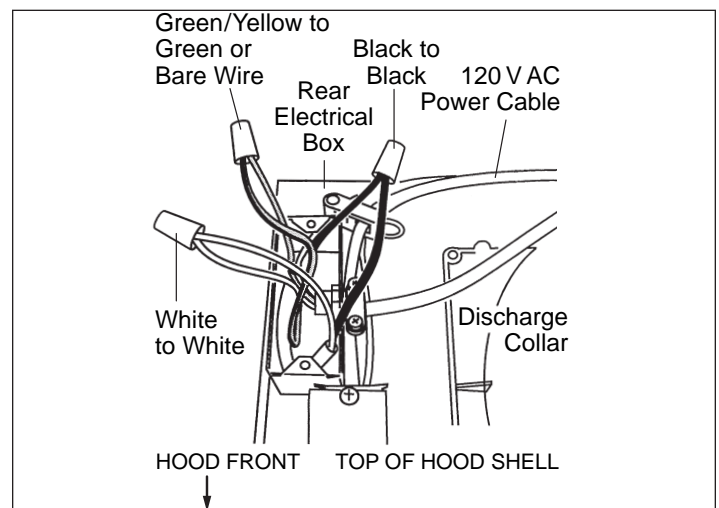

Figure 2-20 Electrical Connections
2. Insert 6" (152) of 120 VAC power cable through the knockout opening. Secure the cable to the electrical box with an appropriate connector.
3. Make electrical connections. Connect black to black, white to white and green/yellow to green or bare wire. (See Figure 2-20)
5. Use an 8" (203) round metal duct to connect the duct collar on the hood to the ductwork above. Use duct tape to make all joints secure and air tight.